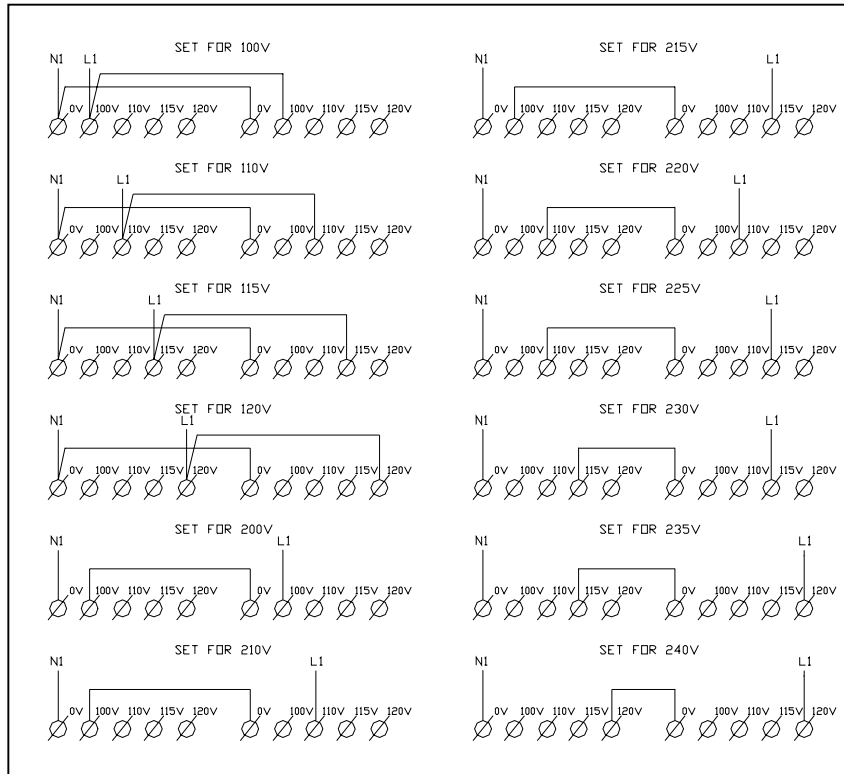

Figure 2.27 Primary Terminal Wiring Set-ups For Most Common Electrical Supply
The primary voltage is manipulated to achieve the secondary output voltage of **230V**. See Figure 2.27 or the **Primary Terminal Wiring** set-ups for most common electrical supplies from **100 – 120VAC** to **200-240VAC**.
3. Measure the voltage at the secondary side of the transformer (terminals **L2** & **N2**) after switching on **Q1**. Ensure that this is **230V±10%** only, if not adjust primary settings accordingly (see Figure 2.27).